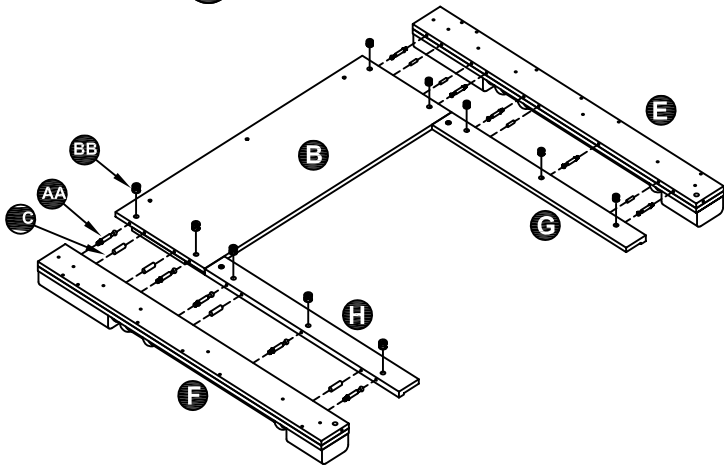

**Figure 1**
1. Insert the cam lock (BB) into the left front Across panel (G), and then Right front Across panel (H). Screw in the cam Dowels (AA) Panel (B). Insert wood dowels (CC) into panel (B) Fix it by tightening the cam, as shown in Figure 1.